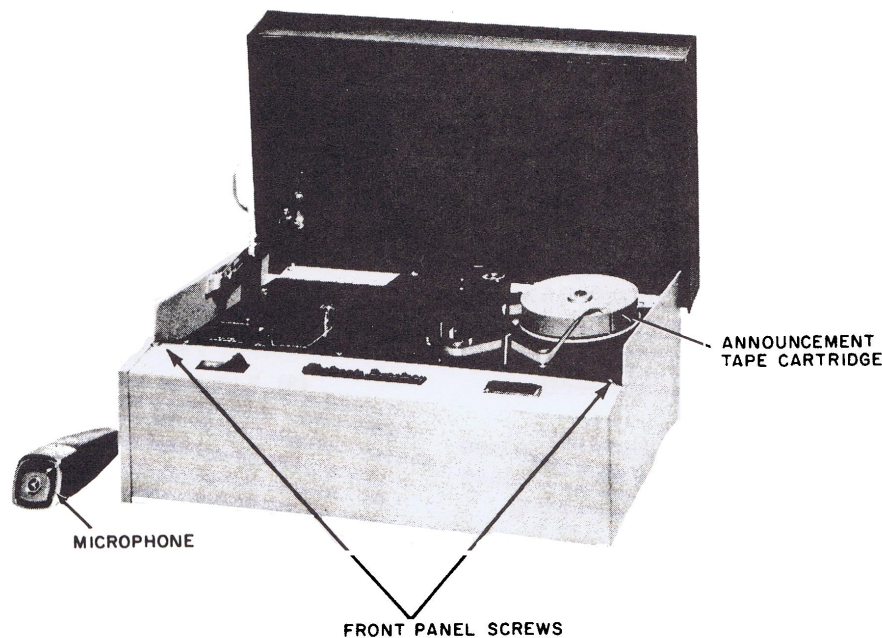

Figure 1. Orientation View of AO-3.
- (1) Open the top hinged cover and remove the two screws (refer to figure 1) holding the upper edge of the front panel. Close the top cover.
- (2) Tip the machine backward. Remove all visible screws on the bottom (5 screws) except those retaining the feet. Tip the cabinet forward to the normal position. Re-open the top cover.
- (3) Pull the lower edge of the front panel forward until it clears the base of the cabinet. Lift the front panel upward to clear the "ON-OFF" switch and cabinet.
- (4) Withdraw the tape mechanism-amplifier assembly from the front of cabinet base by sliding it forward.